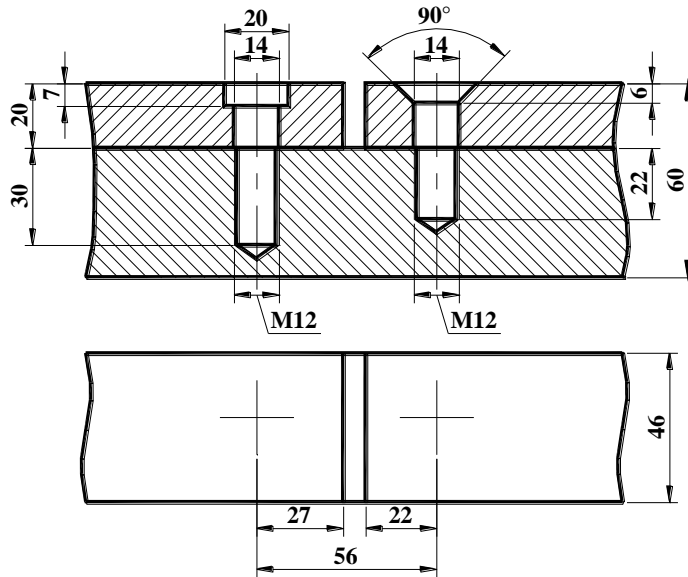

FIGURE T6.2
2. 2. DRAW A SCREW FASTENING SHOWN IN *FIGURE T6.2* WITH SUITABLE VALUE OF DIMENSIONS.